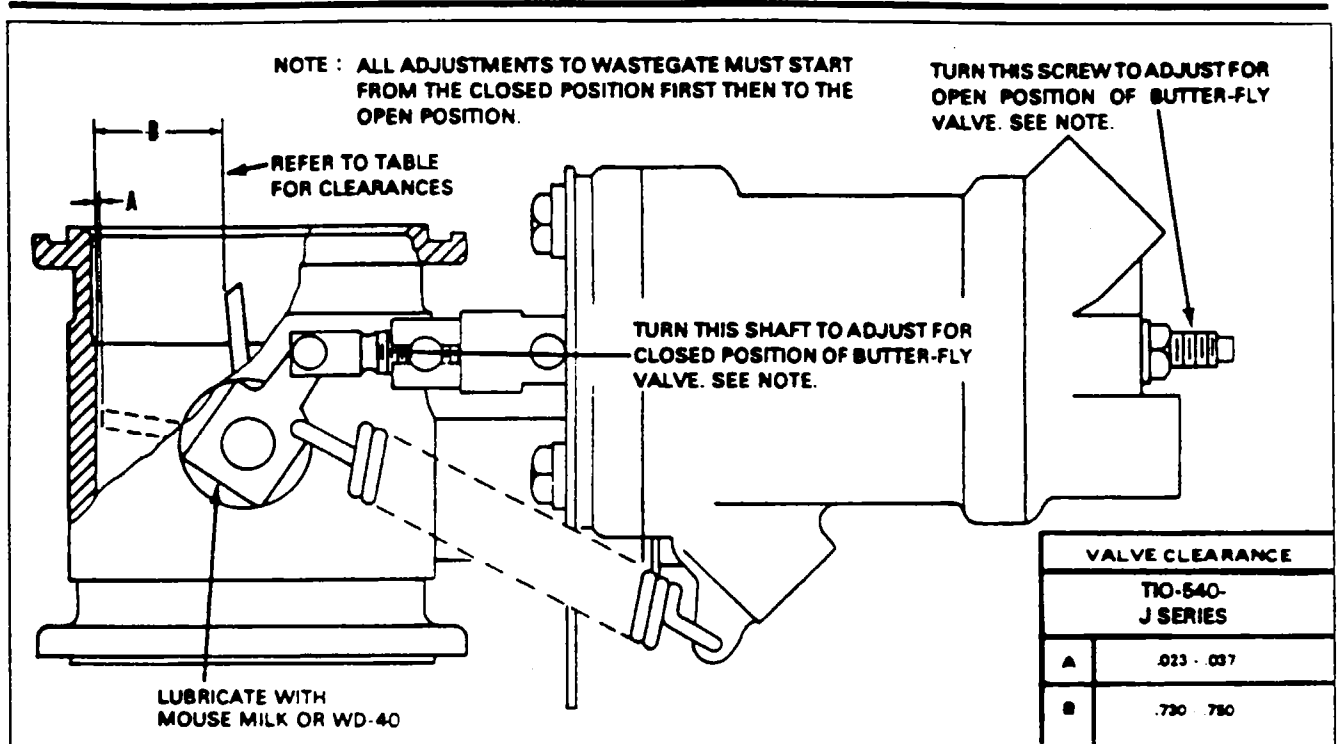

Figure 81-3. Exhaust Waste Gate
EXHAUST WASTE GATE VALVE SETTINGS. (Refer to Figure 81-3.)
The butterfly valve in the exhaust waste gate assembly is set to a predetermined open and closed clearance. A table of these clearances is given in Figure 81-3. With 50-60 psi pressure in the waste gate cylinder, adjust the closed position (A) of the valve so that clearance between the butterfly and side of housing is in accordance with specifications given in Figure 81-3. After adjusting the closed position and with no pressure in the waste gate cylinder, adjust the full open (B) position by adjusting the stop screw to provide the specified clearance between the valve and the side of the housing with backlash taken up towards the open position.